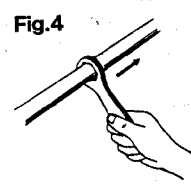

Fig.4
- 4) After fastening the bracket, detach the wrenches from the outershells as shown in the Fig.4.